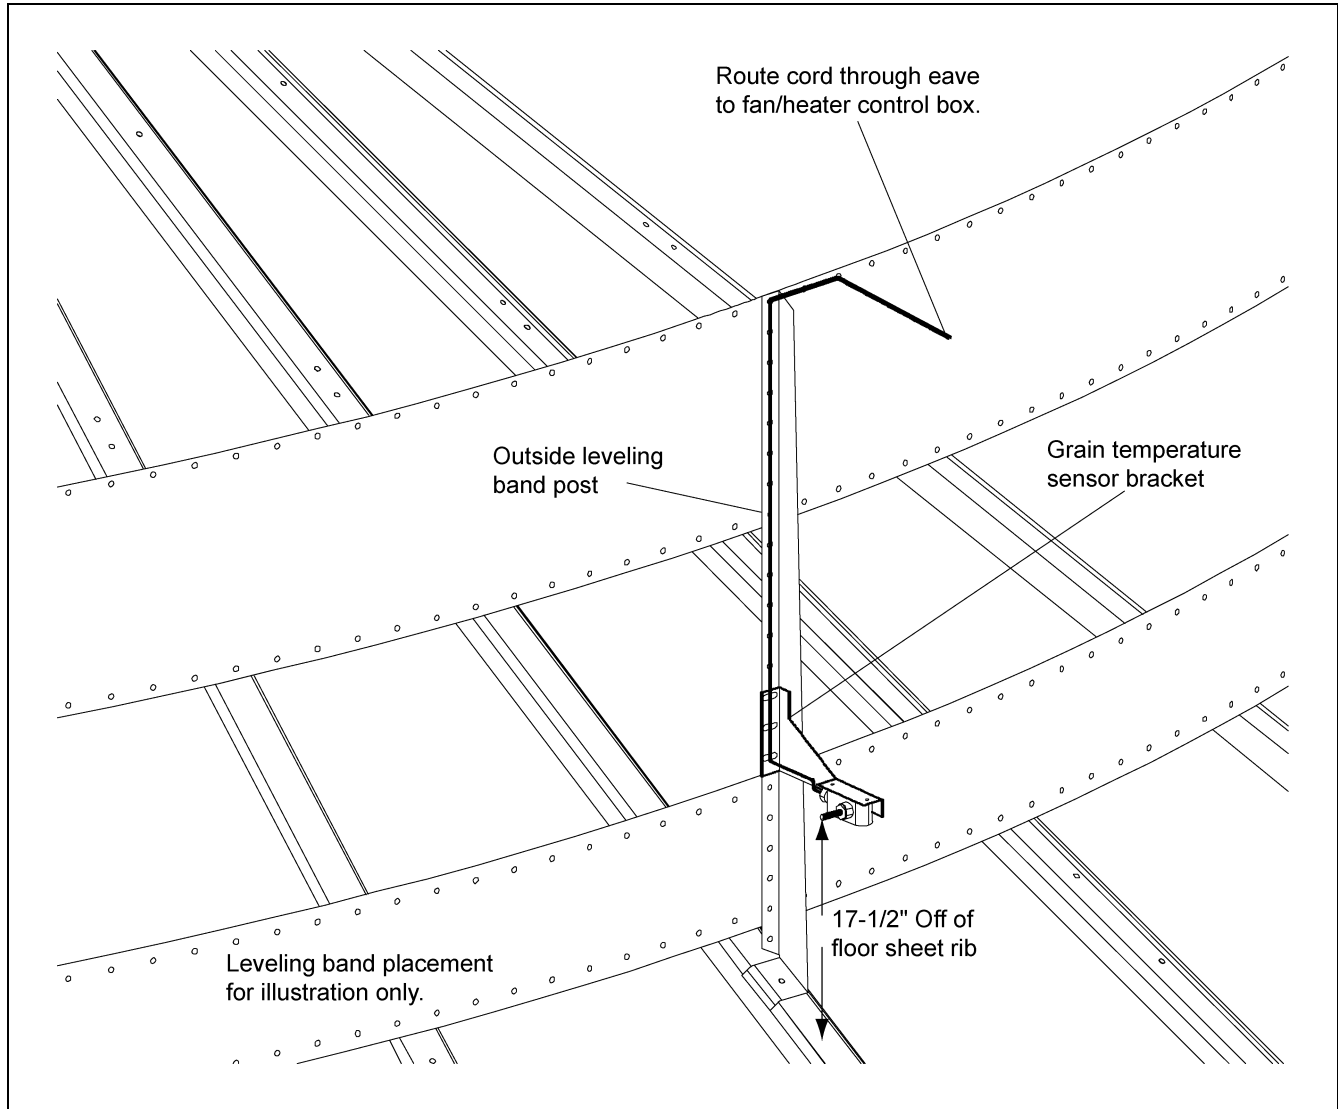

Figure 3E *Illustration of grain temperature sensor mounted on outside leveling band post.*
1. Remove the two (2) wires attached to the grain temperature sensor connected to terminal #22 and terminal #23 in the fan control box.
2. Mount the grain temperature sensor bracket on an outside leveling band post. *(See Figure 3E on Page 13.)*
2. Mount the four (4) grain temperature sensor brackets evenly around the drying chamber on outside leveling band posts. (See Figure 3E on Page 13.)